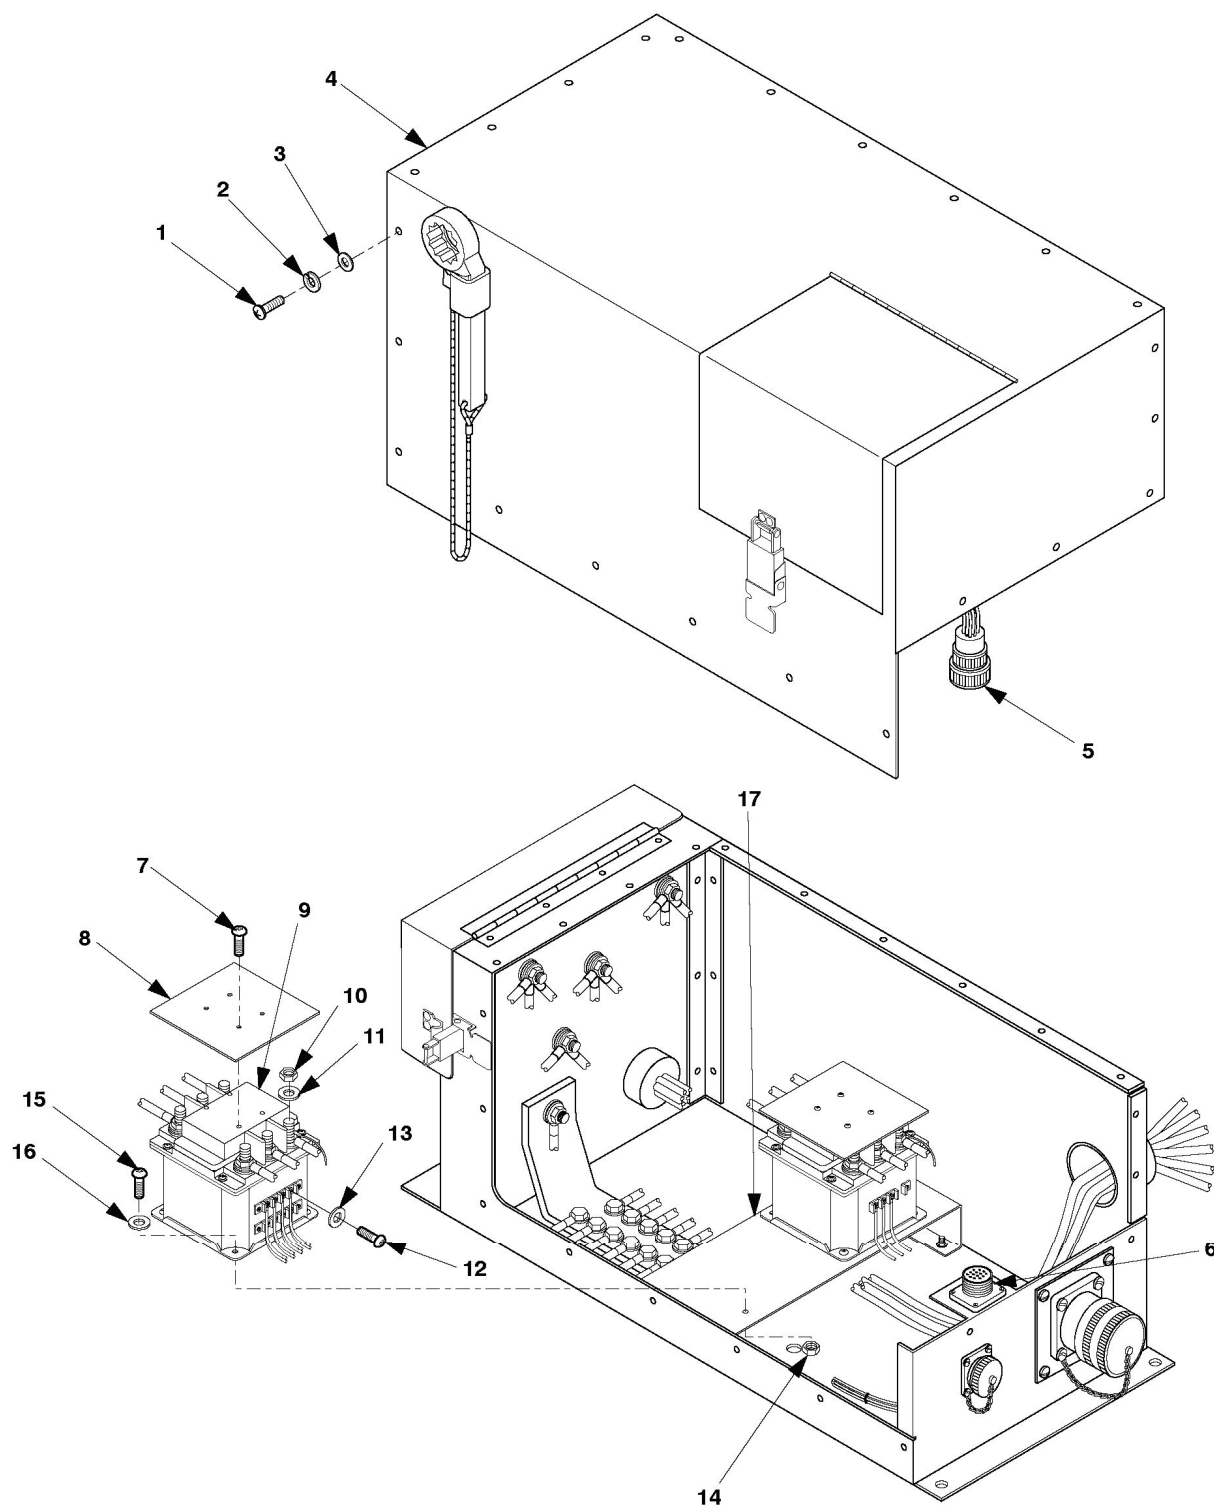

Figure 5-14. Contactor Maintenance (A Model).
1. Remove screws (1, figure 5-14), lock washers (2), and flat washers (3) that secure switch box cover (4) to switch box assembly. Discard lock washers (2).